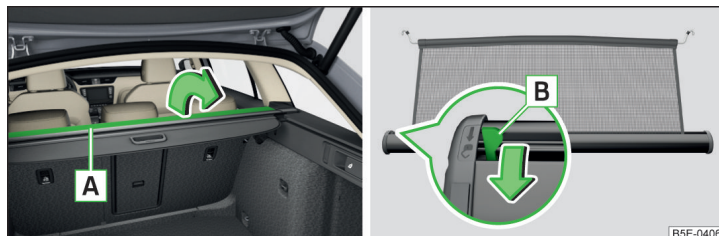

Fig. 117 Open part of the roll-up luggage compartment cover / release lever
- Fold out part of the roll-up luggage compartment cover **A** in the direction of the arrow » Fig. 117.
- Fold back part of the roll-up luggage compartment cover **A** in the opposite direction of the arrow » Fig. 117.
If the net partition blocks when pulling it out of the housing, push the release lever **B** in the direction of the arrow » Fig. 117.